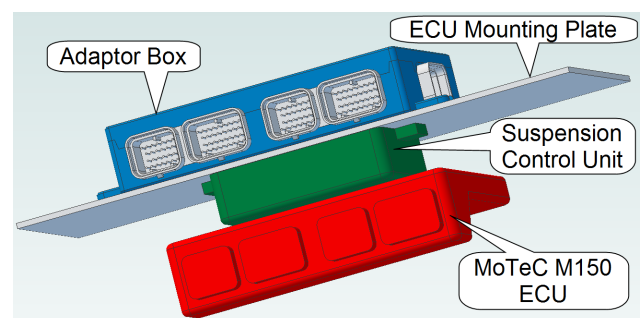

Figure 6.
- ⊖ For LHD — M150 mounting position is behind the original ECU Mounting Plate, on top of the Suspension Control Unit. See Figure 6 for a representation of the assembly.